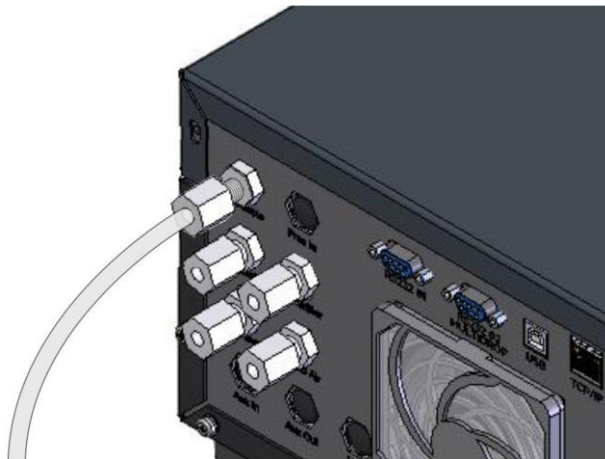

Figure 23 – Insert Tube
5. Refer to Figure 23. Push the tubing into the end of the nut until you hit the tube stop inside the fitting.